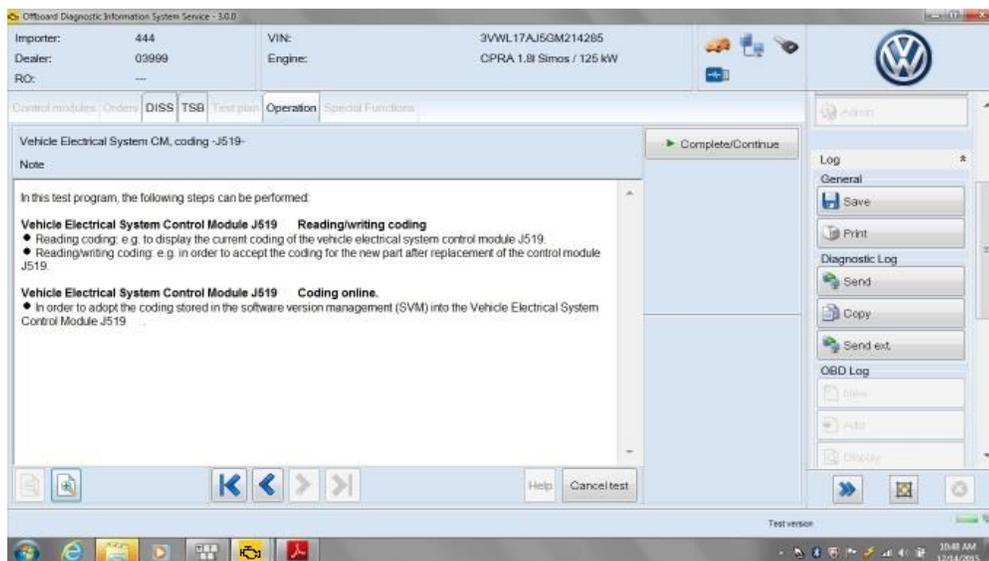

Figure 3
- On next page select complete/continue. (Figure 3)